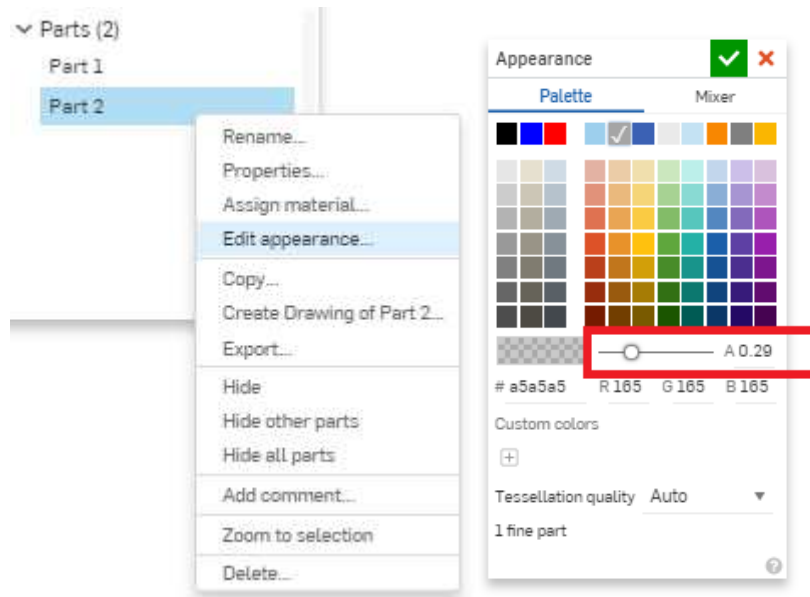

Figure 2.2: Editing appearances of parts.
| Figure 2.2: Editing appearances of parts | 5 |
- 6) The new part (“Part 2”) will be opaque but can be made transparent by right clicking on the “Parts” list below “Features” list and clicking “Edit appearance”. Move the transparency slider to your liking (as shown in figure 2.2) and click ok.